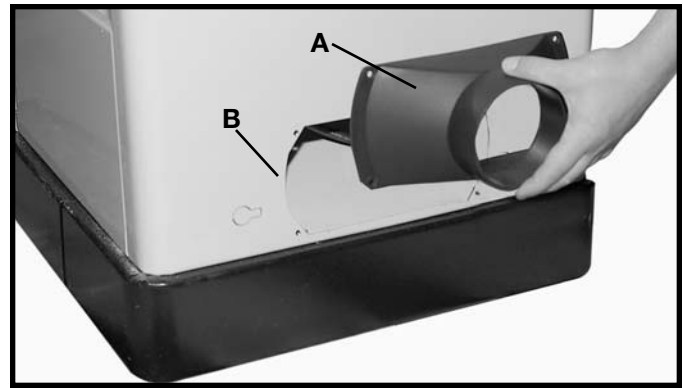

Fig. 34A
The Unisaw is supplied with a dust chute connector to provide a means of connecting a dust collector to the machine. Align the four holes in the dust chute adapter (A) Fig. 34A, with the four holes in the back of the saw cabinet (B) and attach the dust chute adapter with four #10 x 1/2" sheet metal screws.